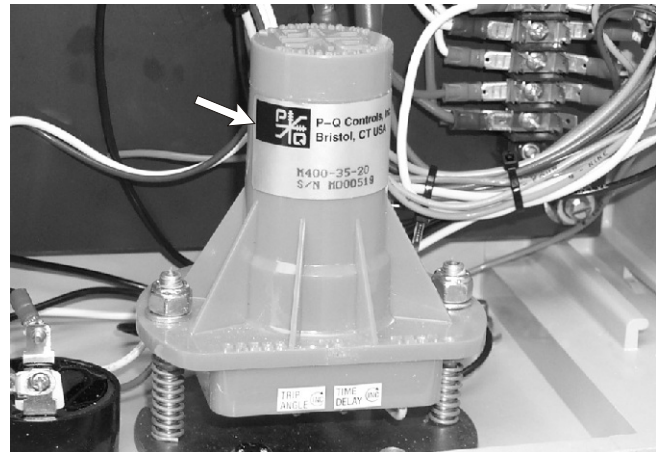

Figure 6.16—Level Sensor
3. Open the door on the lower control box to access the level sensor (refer to Figure 6.16).